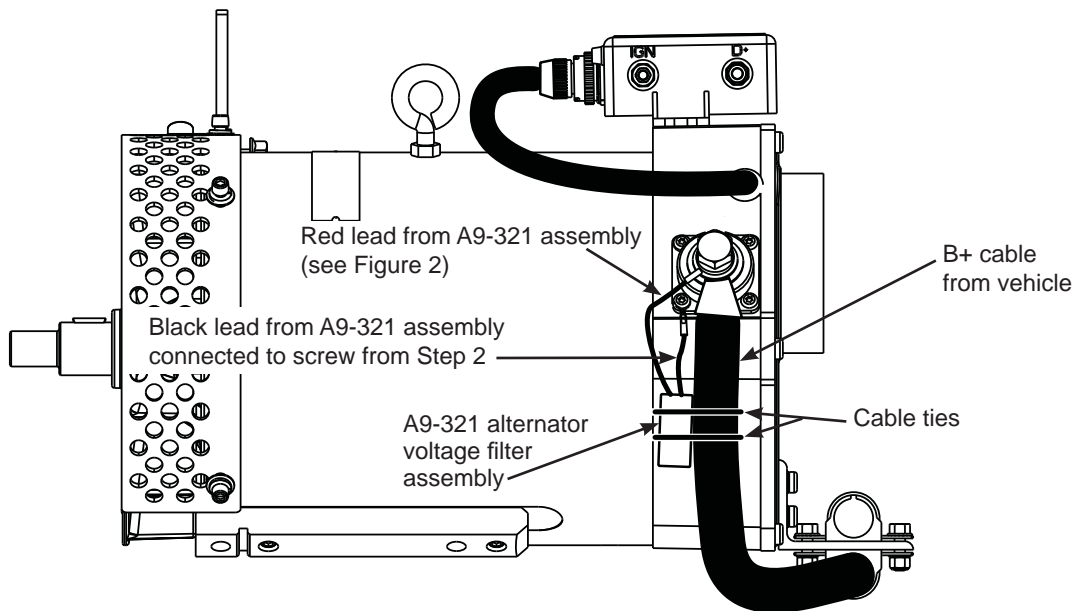

Figure 1 – C803D Alternator with A9-321 Assembly Installed
2. Remove and save one screw from B+ output stud (see Figure 1). Clean off any residue from screw and screw hole.
4. Using cable ties, securely support the assembly to the vehicle B+ cable as shown in Figure 1.